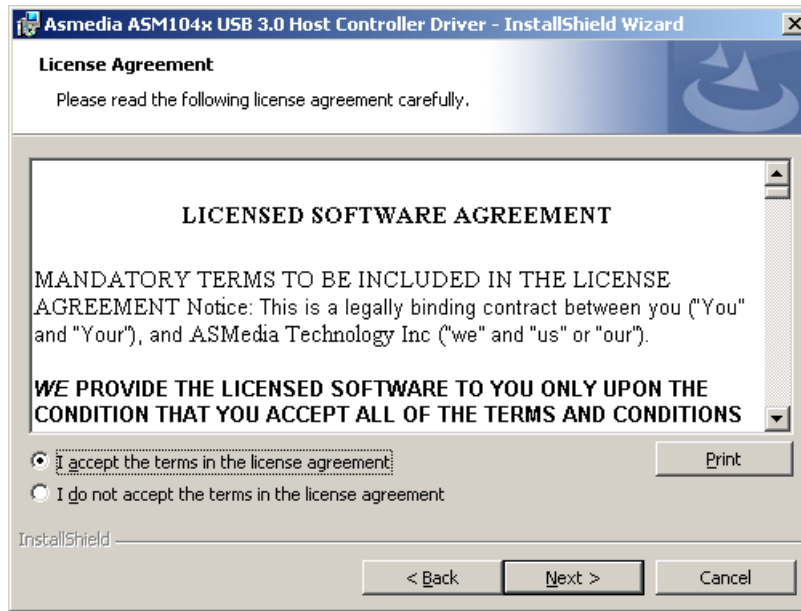

Figure 5-39: USB 3.0 Driver License Agreement
Step 6: The **License Agreement** shown in Figure 5-39 appears.